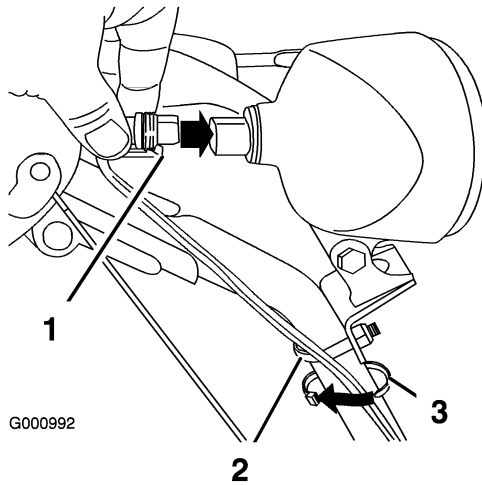

Figure 12
- Insert the wire connector on the loose end of the wire straight into the back of the headlight until it is securely in place (Figure 12).
Note: Ensure that the plastic clip on the wire connector is on the bottom (Figure 12).
2. Secure a cable tie (from the loose parts bag) around the wire and the handle about an inch (2.5 cm) below the U-bolt (Figure 12).